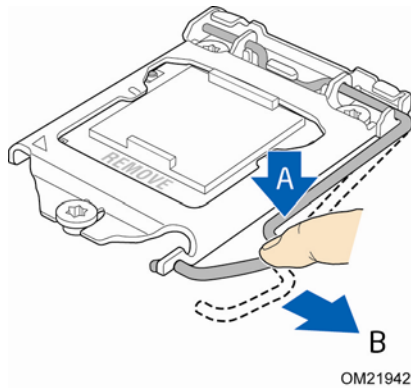

Figure 7. Unlatch the Socket Lever
2. Unlatch the socket lever by pushing the lever down and away from the socket (Figure 7, A and B).